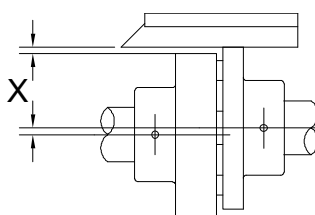

Fig. 21
- 9 - With a straight edge ruler check the parallelism of the two coupling halves at several points, 90° from each other (see fig. 21).